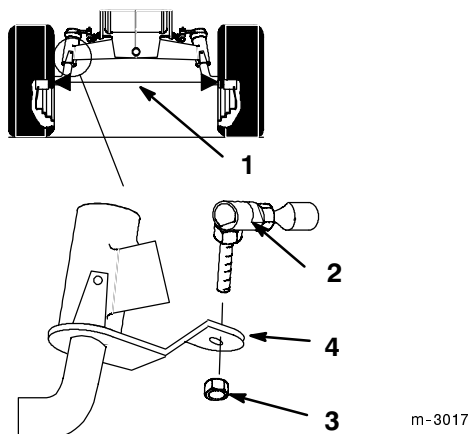

Figure 32
Maintain toe-in of the front wheels as specified. If uneven tire wear, lawn scuffing or hard steering develop adjustment may be required. Check the toe-in after every 100 operating hours or yearly, whichever occurs first (Fig. 32).
3. Measure, between the rims, at spindle level, in the front and rear of the wheels (Fig. 32).
2. Remove ball joint from one steering lever (Fig. 32).